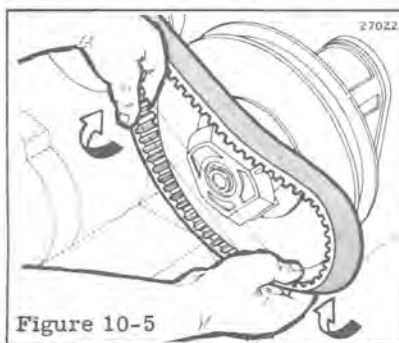

Figure 10-5
- Work belt out from under bottom of sheave and between steering column and end cap, Figure 10-5.